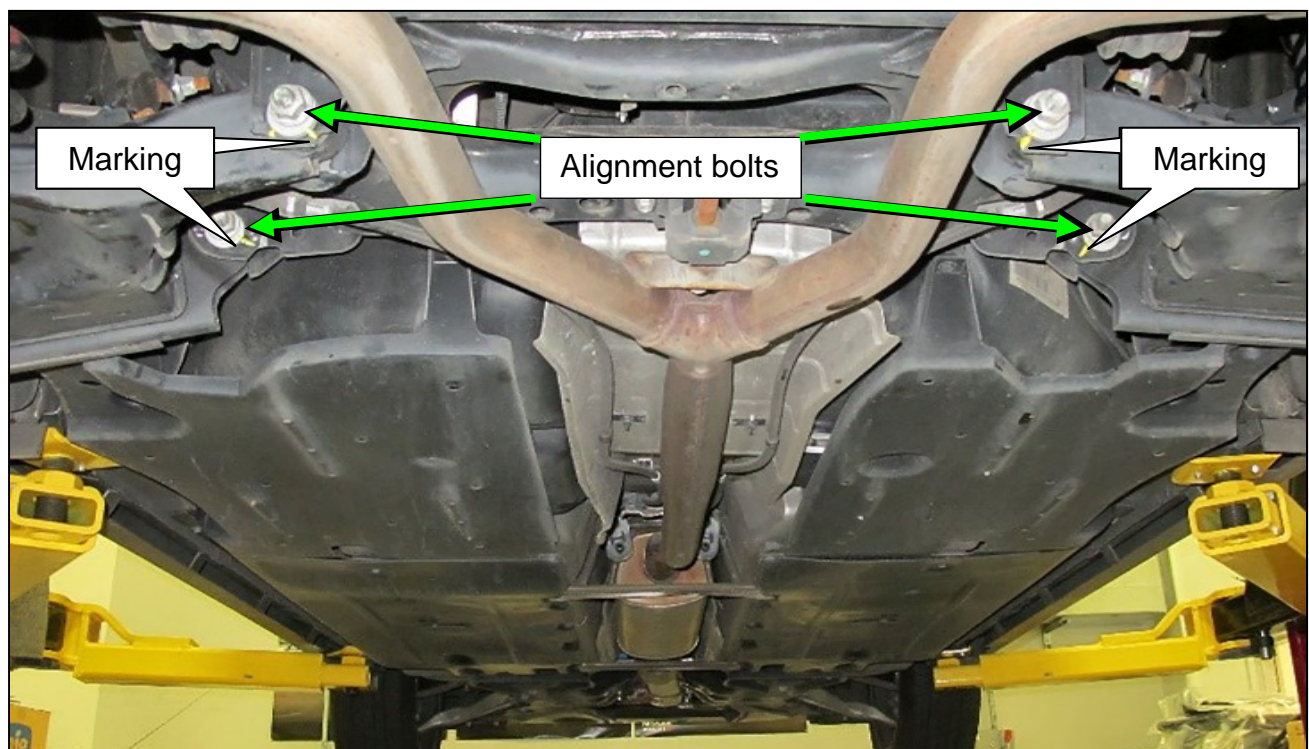

Figure 2
2. Mark the suspension alignment washer to the frame on all 4 rear lower link alignment bolts (see Figure 2).